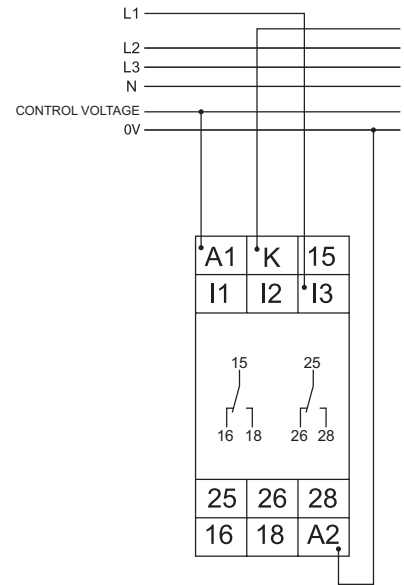

Figure 3
- c. 0.5A – 10A = I3 (See Figure 3)^②